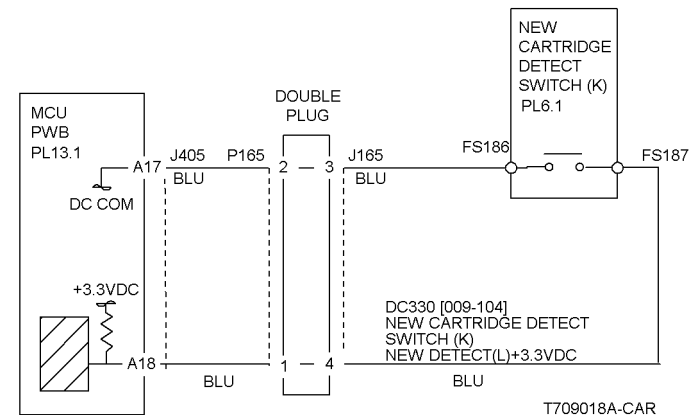

Figure 1 9-390 Rap Circuit Diagram - New Toner Cartridge
Check the wire between J405-A18 and FS187 on the New Cartridge Detect Switch (K) for a short circuit to the frame (Figure 1).